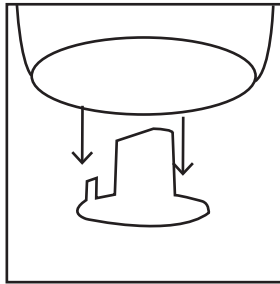

Fig. 2
3. Unsnap bulb locator bracket located under unit to gain access to bulb. (Fig. 2)